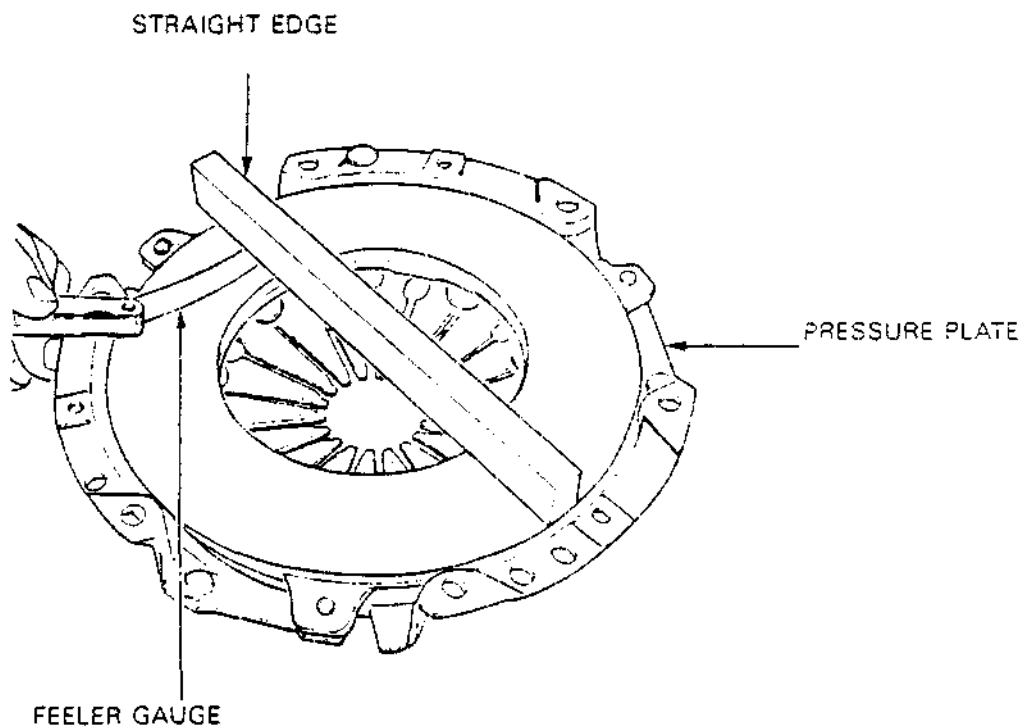

Figure 2 Pressure Plate Distortion Check
- (b) Using a straight edge and feeler gauge, inspect the contact surface of the pressure plate for wear and distortion, see Figure 2. If inward taper or distortion exceeds 0.3 mm (0.012-inch), replace the pressure plate.